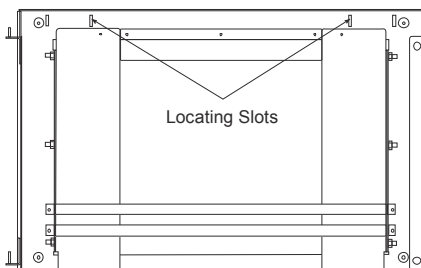

Figure 65
6. Centralise the mounting frame by aligning the locating slots with the flange of the box. Refer to **Figure 65**.